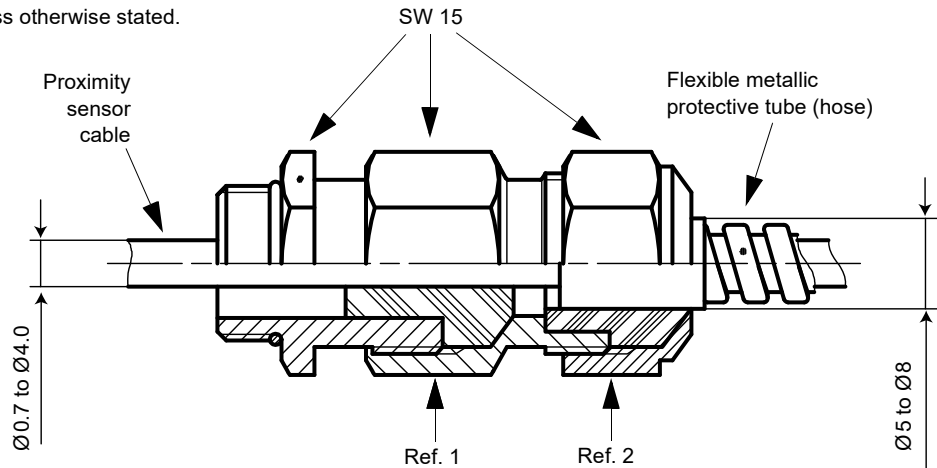

Figure 3-2: Connecting cables to a SG10x cable feedthrough
The SG10x cable feedthroughs are composed of a double cable stuffing gland to secure both a coaxial cable (Figure 3-2, ref. 1) and a stainless steel flexible protective sheathing (Figure 3-2, ref. 2).